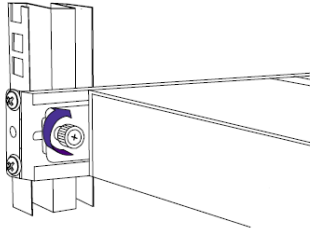

Figure 16 Tightening the thumbscrews
3. Secure the Switch 116 to the rail by inserting the thumbscrews through the bracket and into the rail and tightening them, see Figure 16.